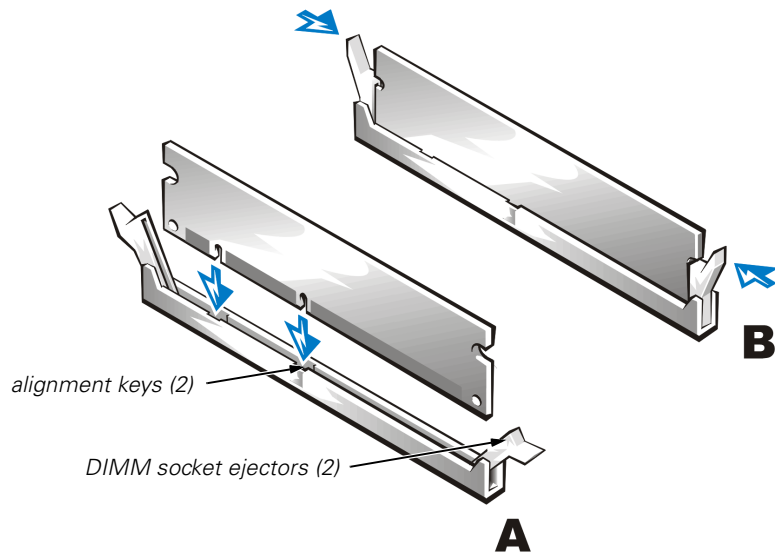

Figure 8-6. Installing a DIMM
1. Press down and outward on the ejectors on the DIMM socket, as shown in Figure 8-6, to allow the DIMM to be inserted into the socket.
2. Align the DIMM's edge connector with the slot in the center of the DIMM socket, and insert the DIMM in the socket (see step A in Figure 8-6).
3. Press down on the DIMM with your thumbs while pulling up on the ejectors with your index fingers to lock the DIMM into the socket (see step B in Figure 8-6). When the DIMM is properly seated in the socket, the ejectors on the DIMM socket should align with the ejectors on the other sockets with DIMMs installed.